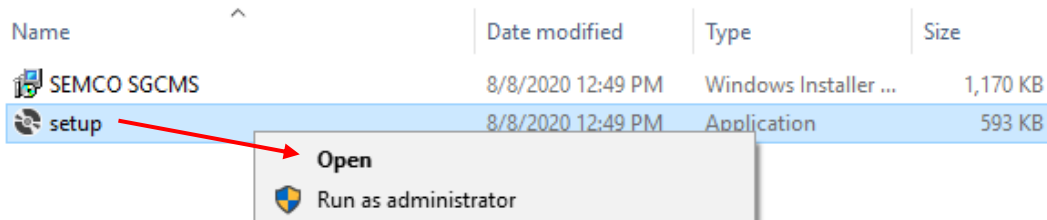

Figure 2-8
Step 2 - To Install the new SGCMS program, navigate to the installation folder (CD, USB, etc.), right-click on the **setup** file and choose **Run as Administrator** as shown in Figure 2-8. Acknowledge the prompts, click on **Next** (3 times) and finally **Close**. The SGCMS software is now installed.